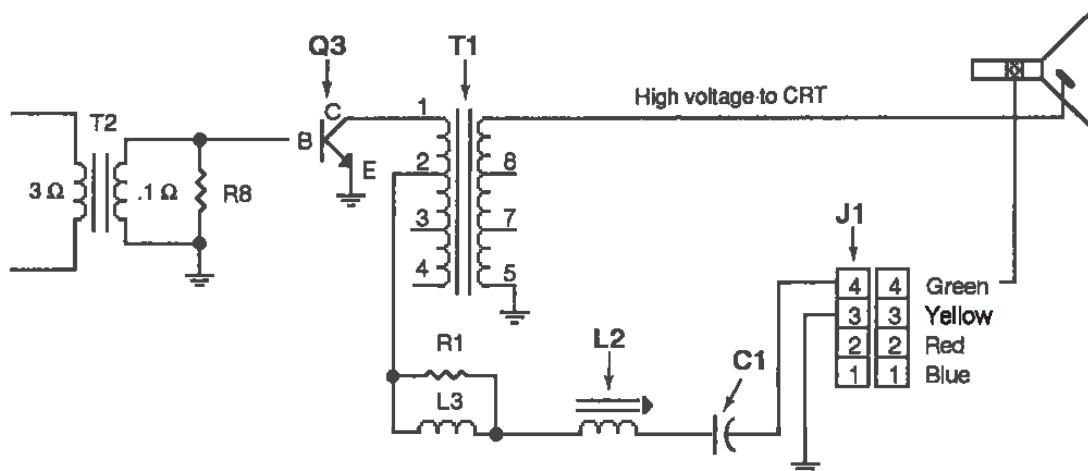

Figure 5-1 The schematic relationship between C1, J1, L2, Q3 (INTERNATIONAL Q2), and T1.
In most cases the problem is at the top of the analog board in the area of C1, J1, L2, Q3 (INTERNATIONAL Q2,) and T1. The schematic relationship between these parts is shown in Figure 5-1. Note that Q3 is marked Q2 on the International analog board. The other suspects, C1, J1, L2, and T1, the yoke cable color codes, and all of the J-X connector assignments are the same for both boards. For reference, these are listed in Tables 5-1 and 5-2.
Figure 5-4 tells the immediate story. There's a huge crack on pin-4 of the J-1 connector. Looking at Figure 5-1, we see that pin-4 leads directly to the horizontal yoke. No wonder the display collapsed to a vertical line! The effect of a crack on pin-4 is the same as if you were to break the horizontal sweep circuit at the point between C1 and J1 in Figure 5-1. All we've got to do to restore the sweep is disconnect the power cord (from the wall outlet) and resolder the J1 connector. But wait, there's a catch!
Testing C1 In-Circuit If you look at the schematic relationship shown in Figure 5-1, you'll see that C1 is in series with the horizontal deflection circuit. Series caps are known as DC blocking caps. The operating voltage coming in on pins 3 and 4 of T1 is DC. The sweep signal passing through the circuit is high-frequency AC. C1's function is to keep the operating voltage (DC) from interfering with the sweep signal (AC). Because C1 is passing AC and blocking DC, testing it with a high-impedance (10,000,000 ohms per volt) multimeter is tricky. Complex waveforms are overlapped. Which of the waveforms will the meter see, AC or DC? It all depends on the meter. FET